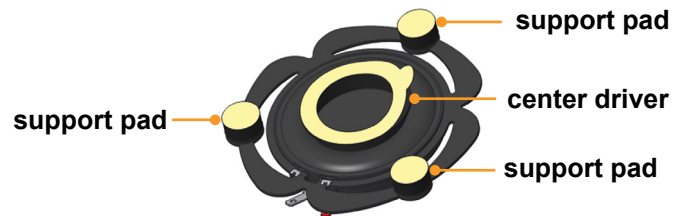

Fig.2
4. Carefully remove the protective film covering the adhesive on the three support pads and center driver on the front of the Exciter (Fig.2).